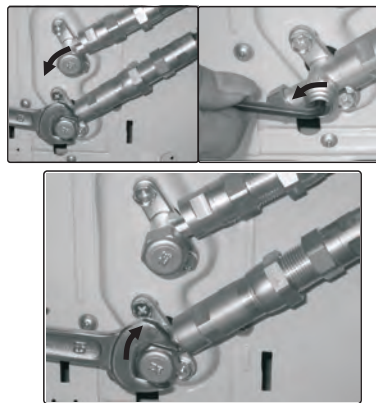

Fig.25
6. Now remove the cover on the bottom valve using a 19 mm open-ended spanner. Open the valve by turning it counter-clockwise as far as it will go using a 5 mm Allen key. The valve is now open. If the valve is not opened fully, the system may malfunction and suffer damage. Screw the cover back on to the bottom valve and tighten it well to ensure that it is properly sealed. See Fig.25.